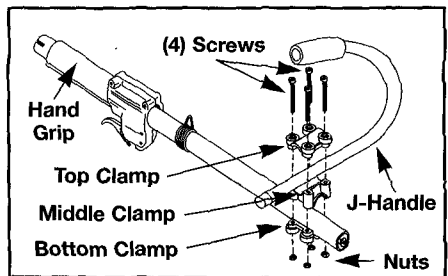

Fig. 3
1. Place the J-handle between the top and middle handle clamp pieces (Fig. 3).
3. Install, **one at a time**, the four (4) screws and four (4) hex nuts with a Phillips screwdriver. Install all four screws before you tighten them.